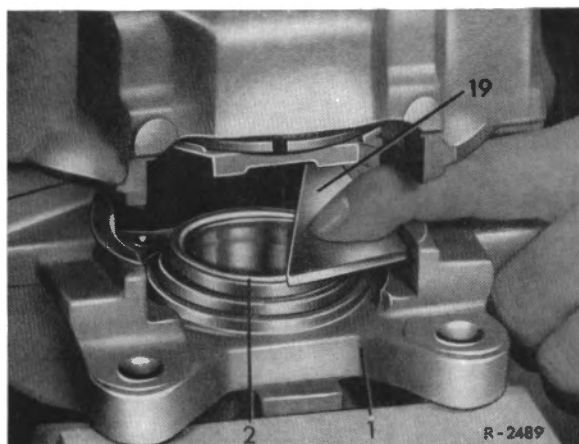

Fig. 42-12/17
12. Insert the piston (2) in the bores of the brake caliper. Then check the position of the piston by means of Piston Gage 001 589 30 21 00 (19) in the brake caliper and, if necessary, turn the piston in the correct position by Piston Turning Tool 000 589 36 37 00 (20) (Figs. 42-12/17 to 18).